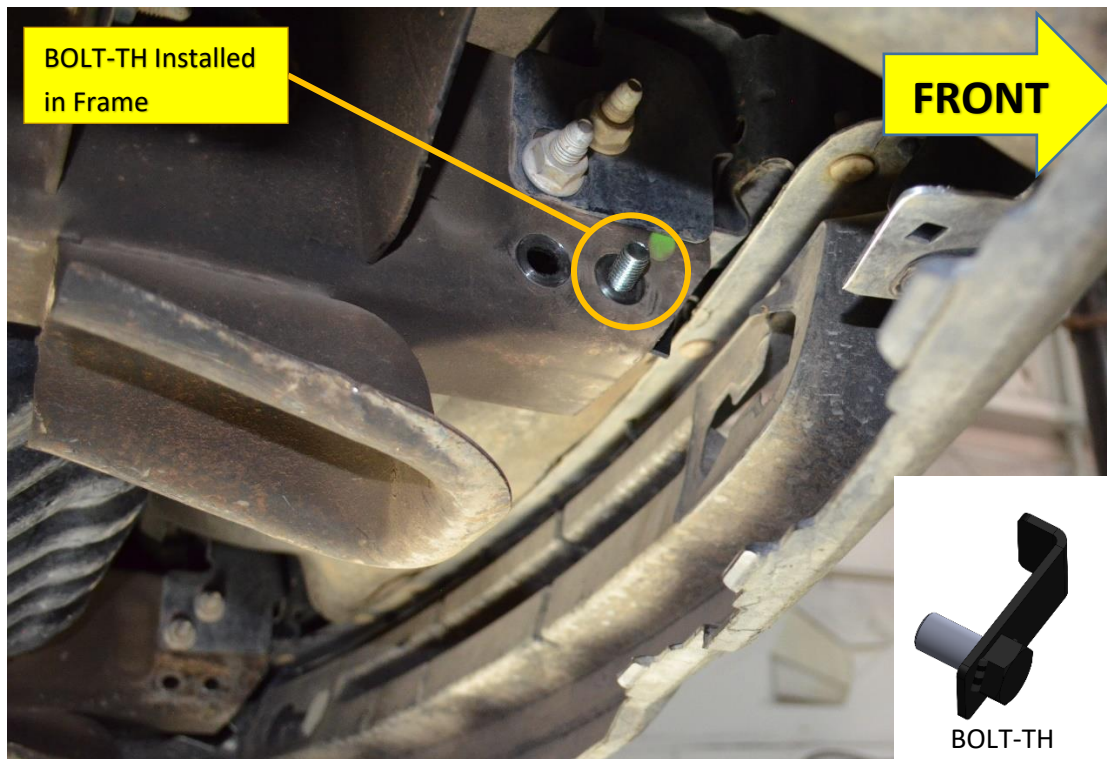

Figure 14 – BOLT-TH Installed in vehicle without OE Tow Hooks (Shown in Passenger Side frame rail)
- 9.4.4. IF **NOT EQUIPPED** WITH TOW HOOKS, Insert BOLT-TH into frame rails from front of vehicle and ensure threads are protruding to outside of vehicle, as shown in Figure 14 below.